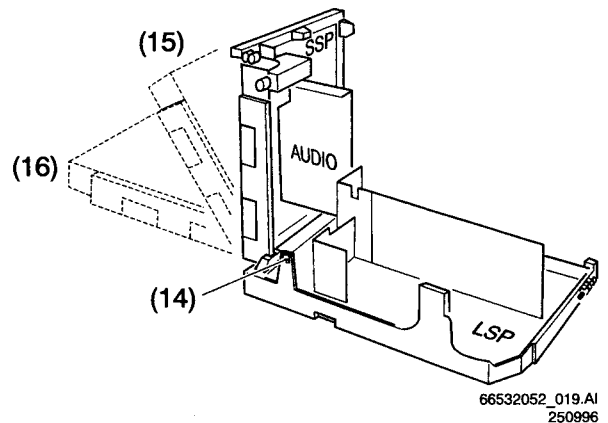

Figure 4.7
SSP copper and component side, module servicing (Figure 4.7)
2. Release the click construction (14 - Fig. 4.7) between the SSP and LSP, lift the SSP a little and turn it to an angle of 180° (16 - see Fig. 4.7) from the LSP. The mains panel can now be accessed when reaching over the SSP/LSP.